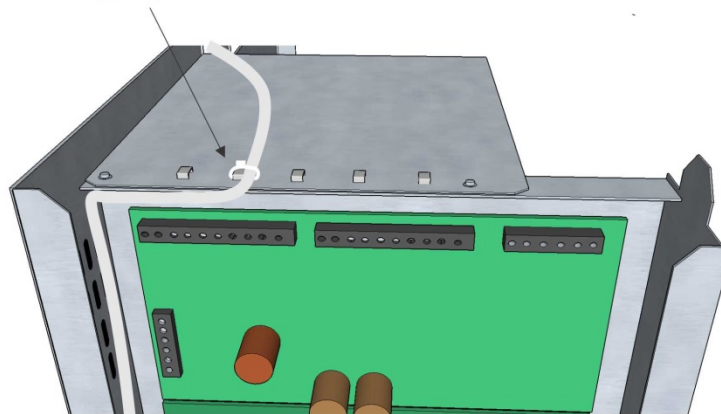

Figure 2-6: Mini console cable securing
Tightly secure the console cable to the fan assembly cover lance with a cable tie or an equivalent fastener. Secure console cable as shown in Figure 2-6.
4. Secure the mini console cable to one of the lances on the fan assembly cover as shown in Figure 2-6. Use a cable tie or an equivalent fastener to secure the cable to the lance fully.